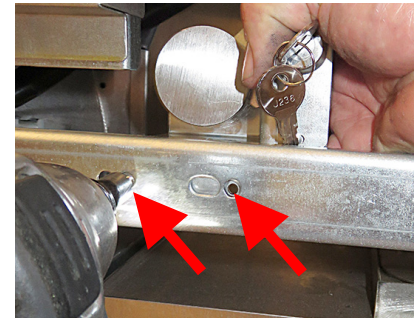

Figure 17
21. Attach disposal valve handle bracket, with 2 cabinet screws, to front rail using existing holes (see Figure 17).